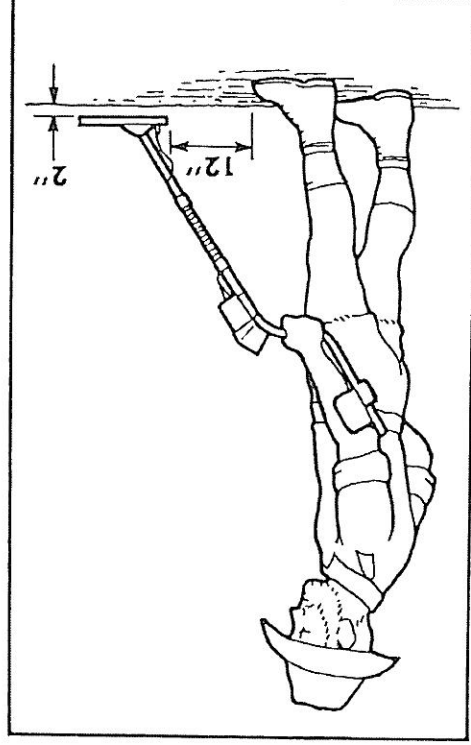

Fig. 2 Search position.
6. With the shaft length and coil angle properly adjusted, you should be able to move into your "search" position (as shown in Figure 2) by leaning forward very slightly and raising your arm (still straight) until the search coil is about 2 inches above the ground and 12 inches in front of your foot. The search coil should be parallel to the ground and may have to be slightly readjusted at this point.